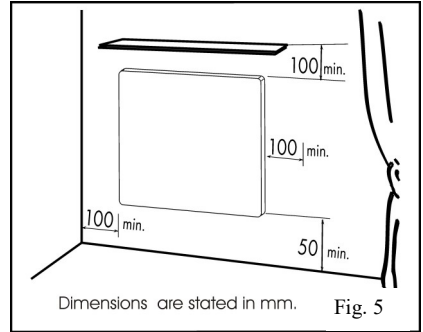

Fig. 5
- **Do not cover the panel in any situation.** The notice “NEZAKRÝVAT” (“DO NOT COVER”) notifies that any material covering the panel may cause a fire. Furniture must not be placed and curtains must not be hung in front of the panel (see Fig. 5) and free circulation of air must be ensured. Dust must be removed from the panel regularly, at least before the beginning of every heating season. Do not touch the panel when in the bathtub or shower!
The distance between the bottom edge of the appliance and the floor mustn't be less than 50 mm; 150 mm is recommended. The clearance distance on the side (e.g. from furniture) must be at least 100 mm, and 100 mm is the minimum in the upward direction (see Fig. 5).